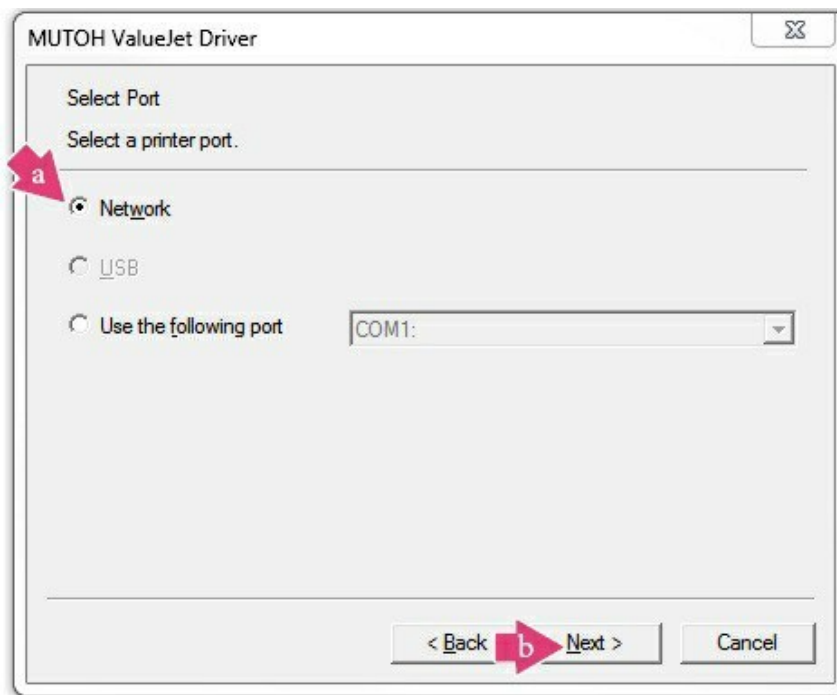

Figure 30
17. Select **Network** (a), and click **Next** (b) to continue. See Figure 30.